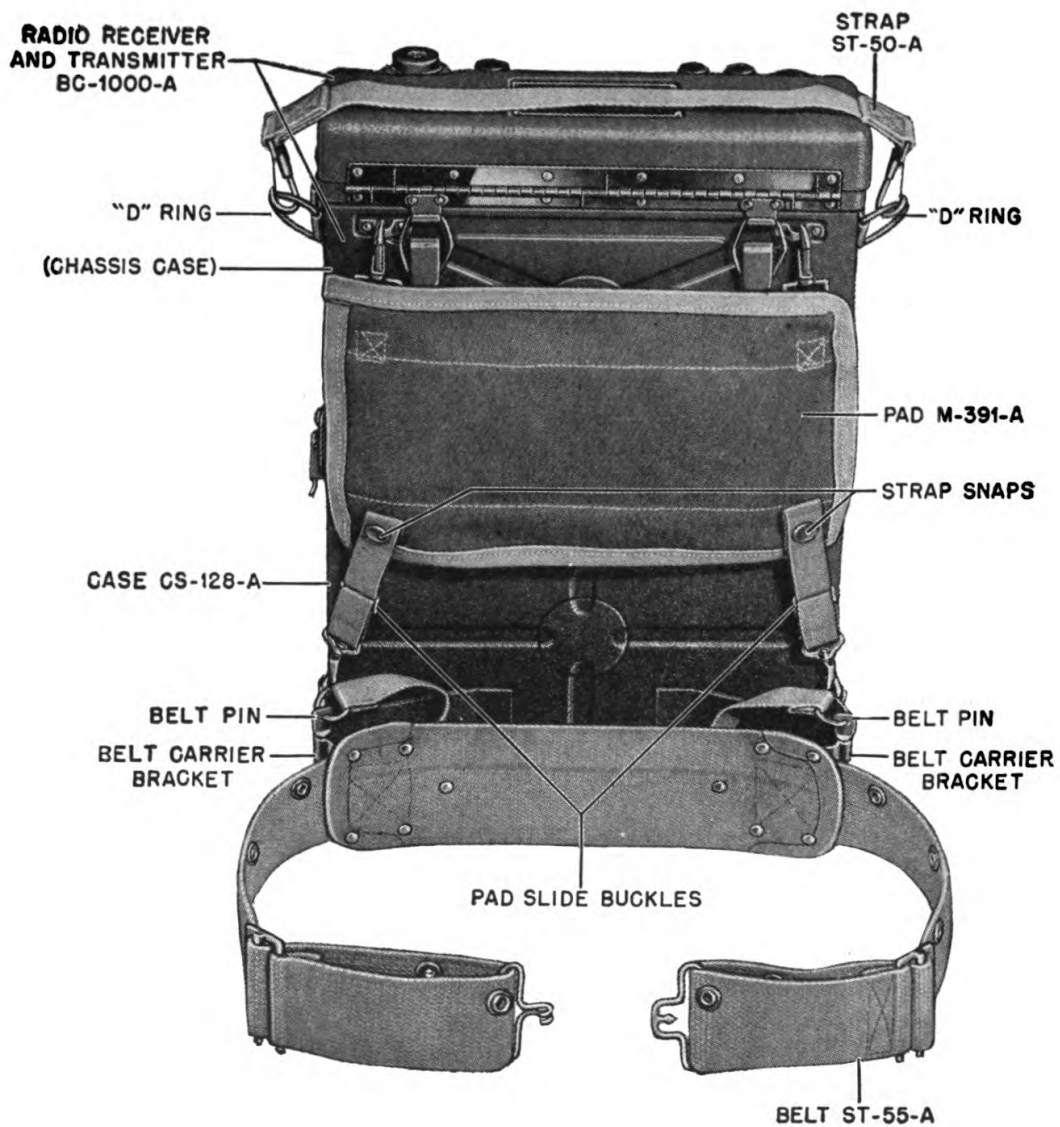

Figure 14. Radio Set Rear View Showing Assembly of Pad M-391-A, Belt ST-55-A and Strap ST-50-A.
(1) *Pad M-391-A.* Clip Pad M-391-A to the set by means of the four attached snap hooks. The snap hooks, with the adjustable straps, are to be on the bottom and are to be clipped into the hook bracket holes that are nearest the case. Adjust pad bottom straps by means of the slide buckles so that pad lies flat against the back of set housing, as shown in Figure 14.
(2) *Belt ST-55-A.* Fasten Belt ST-55-A to the hook brackets by means of the two belt pins. The pins are permanently attached by means of short straps to the belt. The belt is to be attached so that the eyelet re-enforced holes are on top. (See Figure 14.)
(4) *Strap ST-50-A.* Clip the strap by means of its two snap hooks to the two D rings (B). (See Figure 14.) When it is necessary to open panel cover, the strap is pushed out of the way toward the back of the set.